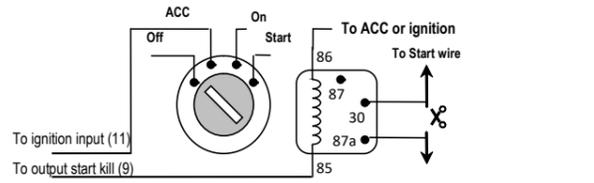

Fig.1 Wiring diagram for start kill relay
**Yellow/Green (-)** - start/kill output - Wire is grounded when system is armed or triggered. Max. Current capacity -250 mA. (Fig.1).